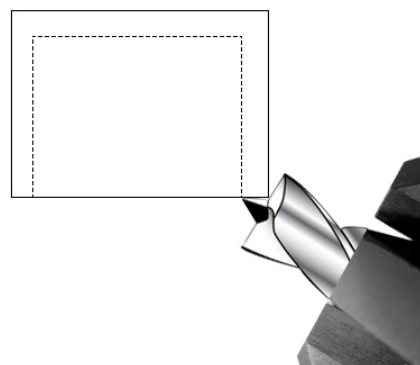

Fig.18
5. Use the longitudinal feed of the grinding wheel and the cross feed of the slide rest to control the feeding of sharpening the cutting edge. After taking a light cut, change to the opposite number on the cylinder (No.16) and grind it again until there is a small flat on the cutting edge. (Fig.18)